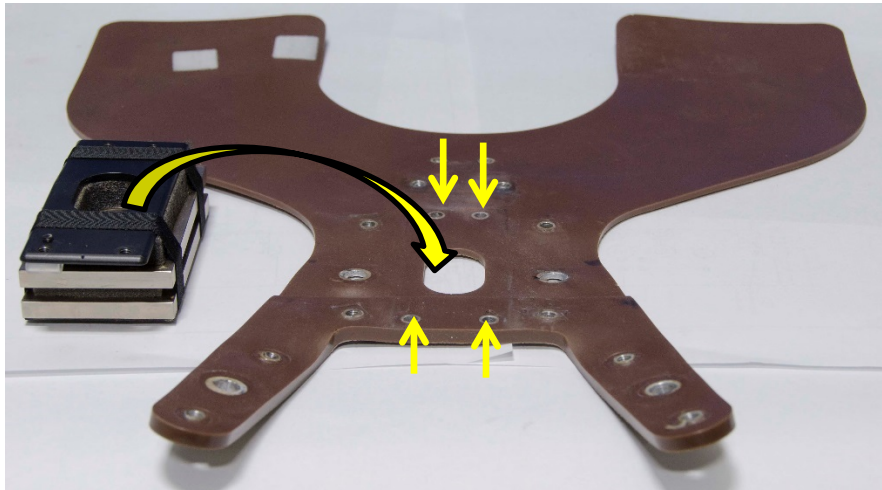

Figure 6-46. Attach mid-sternum mass assembly to bib
- 6.2.2.39 Attach the Mid-Sternum Bonding Assembly (472-3410) to the Thorax Bib Assembly (472-3400) using four M5 x 0.8 x 10 BHCS with associated M5 x 15 x 1.2 washers (Figure 6-46). Install the screws through the front of the bib.